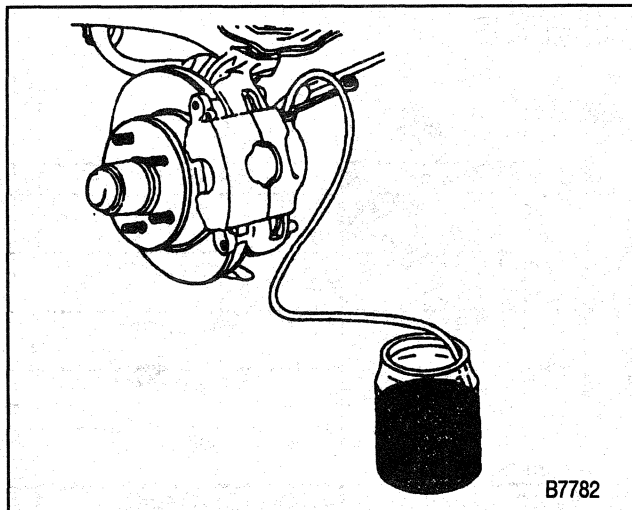

Figure 6—Immersing the Bleeder Hose
- Immerse the opposite end of the hose into a container partially filled with clean brake fluid (Figure 6).